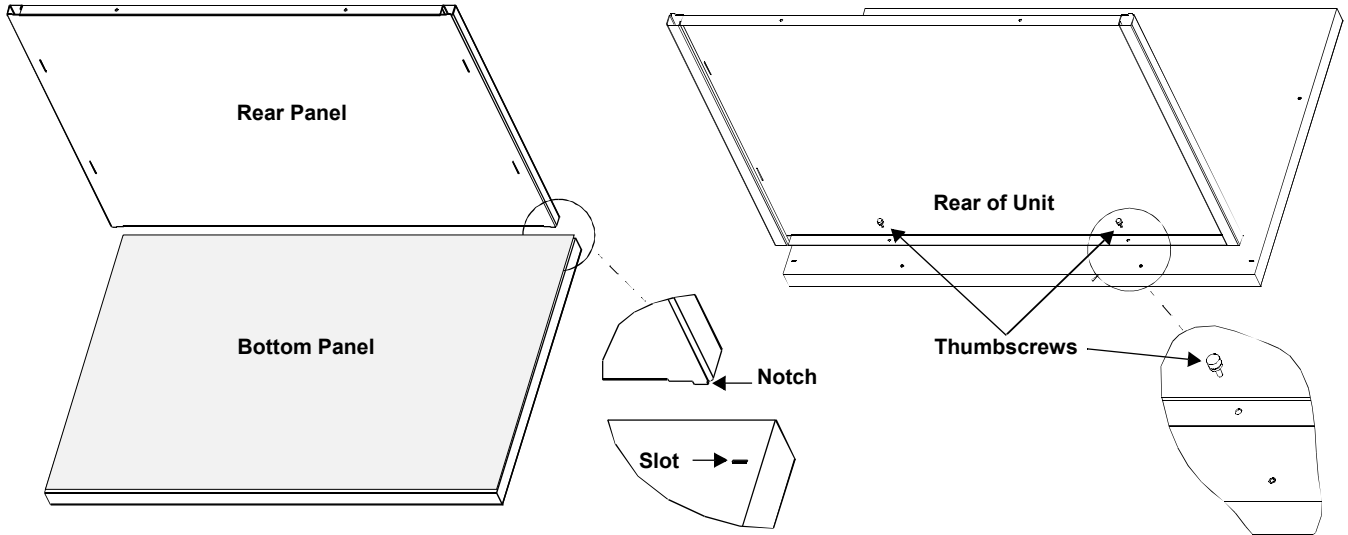

Figure 2. Rear Into Bottom Panel
4. Position the Rear Panel (#2) bottom notches into the Bottom Panel (#1) rear slots. Fasten the Rear Panel to the Bottom Panel by securing it with two thumbscrews as shown in Figure 2.